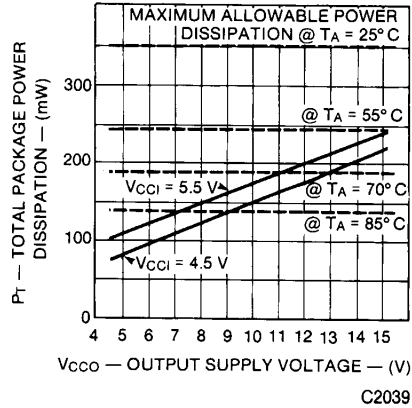

Fig. 12. Power Dissipation vs. Ambient Temperature
*See Fig. 12 for maximum allowable output supply voltage.